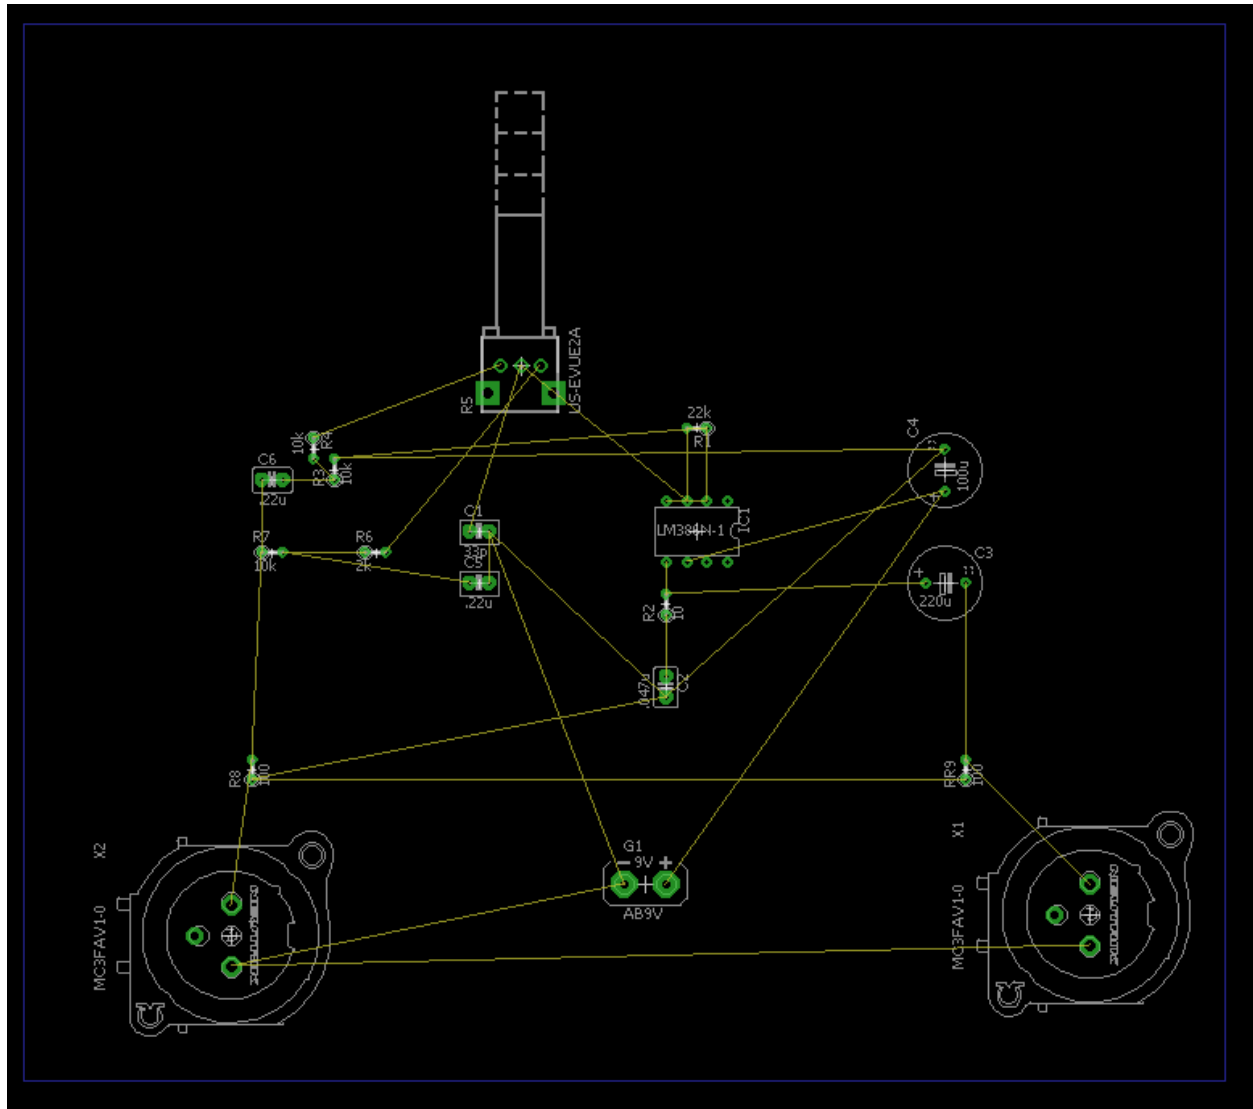

Figure 8
10. Once the components are laid out as shown in the example in **figure 8**, the traces can now be routed to form the electrical connections between all of the pads.